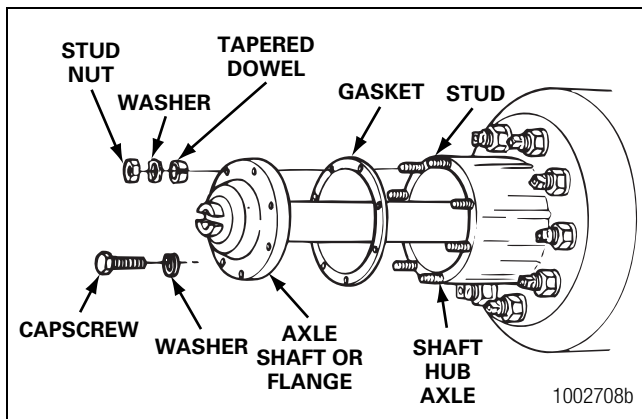

Figure 3.2
5. Remove the tapered dowels and separate the axle shafts from the main axle hub assembly. Figure 3.2.
5. Remove the tapered dowels and separate the axle shaft from the main axle hub assembly. Figure 3.2.